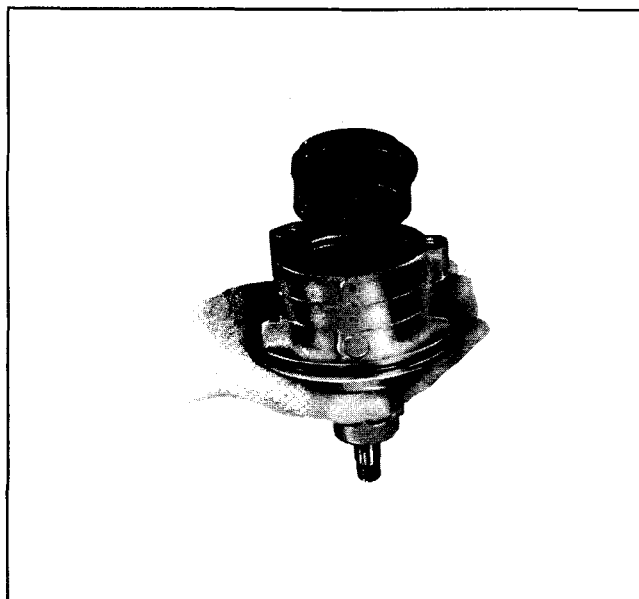

Fig. 9-114 Shaft, Pressure Plate, Plate Pump Ring, Vanes and Rotor Removed
9. Remove pressure plate, pump ring and vanes, being careful not to drop parts (Fig. 9-114).